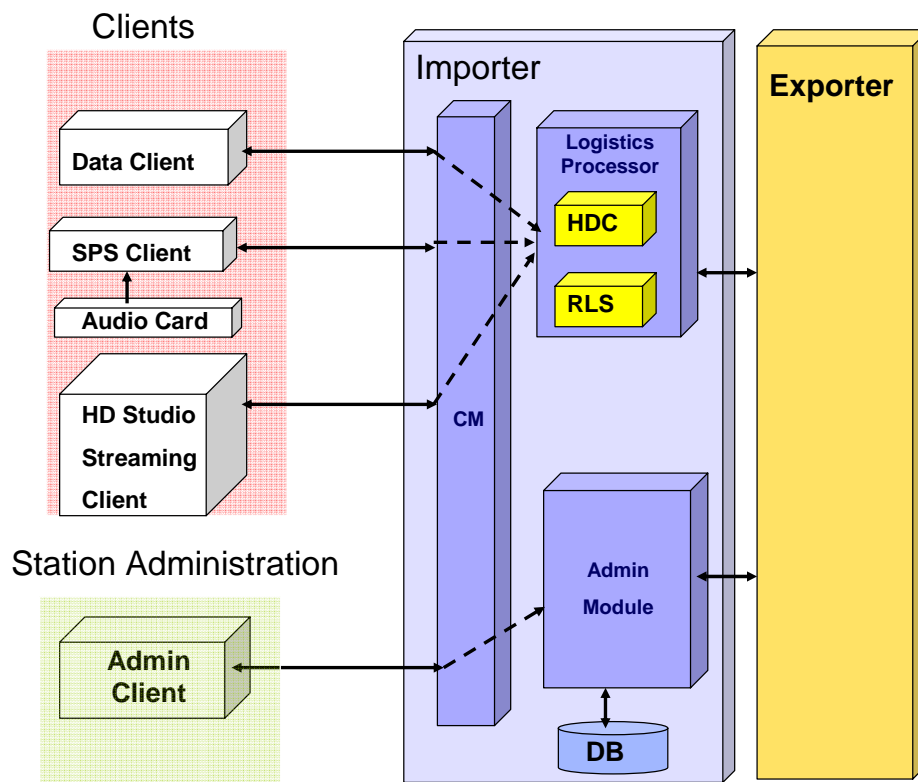

Figure 4-1 Importer Components and their interconnections
Figure 4-1 shows a block diagram of the AAS framework as part of the broadcast infrastructure. The 3 main elements are 1) the clients (e.g. service providers and administrators), 2) the Importer, and 3) the Exporter. This document focuses on the operational use of the Importer.
- *Connection Manager (CM):* The Connection Manager is responsible for managing the connections from the various services. It authenticates service providers and delivers the specific information regarding the configurations and services for each service provider. It provides the mechanism for service providers to deliver data services to the Importer. It allows multiple service providers to connect to the Importer and multiple services to be delivered by each service provider. The Connection Manager connects to the Importer Database for authentication information as well as to the Logistics Processor for bandwidth and QoS information.
- *Logging Service:* Although not shown in Figure 4-1, the Importer incorporates a logging package that allows the various components to write messages to a file. These messages can be informational (i.e. documenting certain events) or can indicate errors or warnings. This file can be very useful for failure analysis in case the Importer should cease to function properly. This logging package is implemented as a Windows “Service” and hence will start automatically on system start-up.
- *Control Panel:* Although not shown in Figure 4-1, the Importer software includes a module that can be used to control, configure, and monitor the main Importer components.